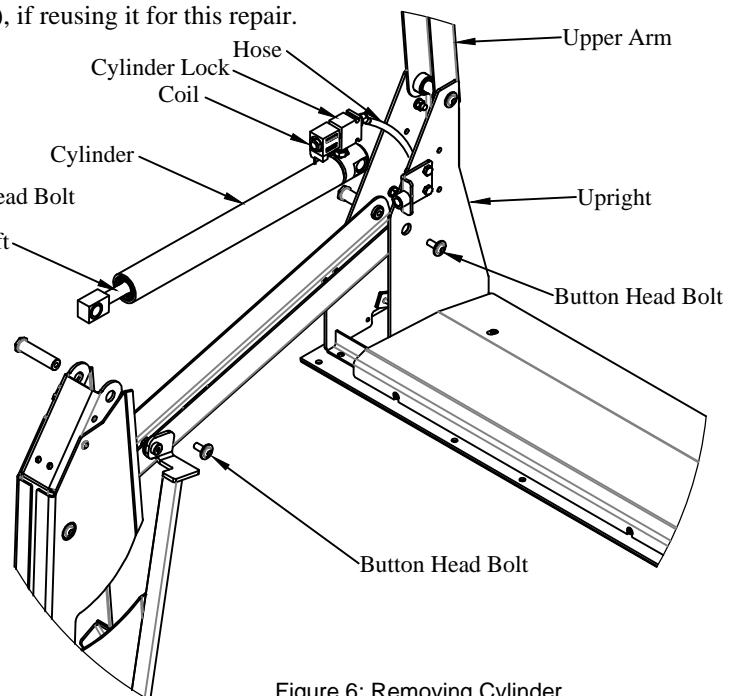

Figure 6: Removing Cylinder.
6. **Rotate** and **Secure** the upper arm out of the way (Figure 6).
10. **Remove** the hose from the cylinder lock (Figure 6).
11. **Remove** the coil from the cylinder lock (Figure 6).
15. **Insert** new pin "B" through outboard upright and far enough into lower arm to support the lower arm (Figure 6).
16. **Remove** and **Save** the cylinder lock from the cylinder (Figure 6), if reusing it for this repair.